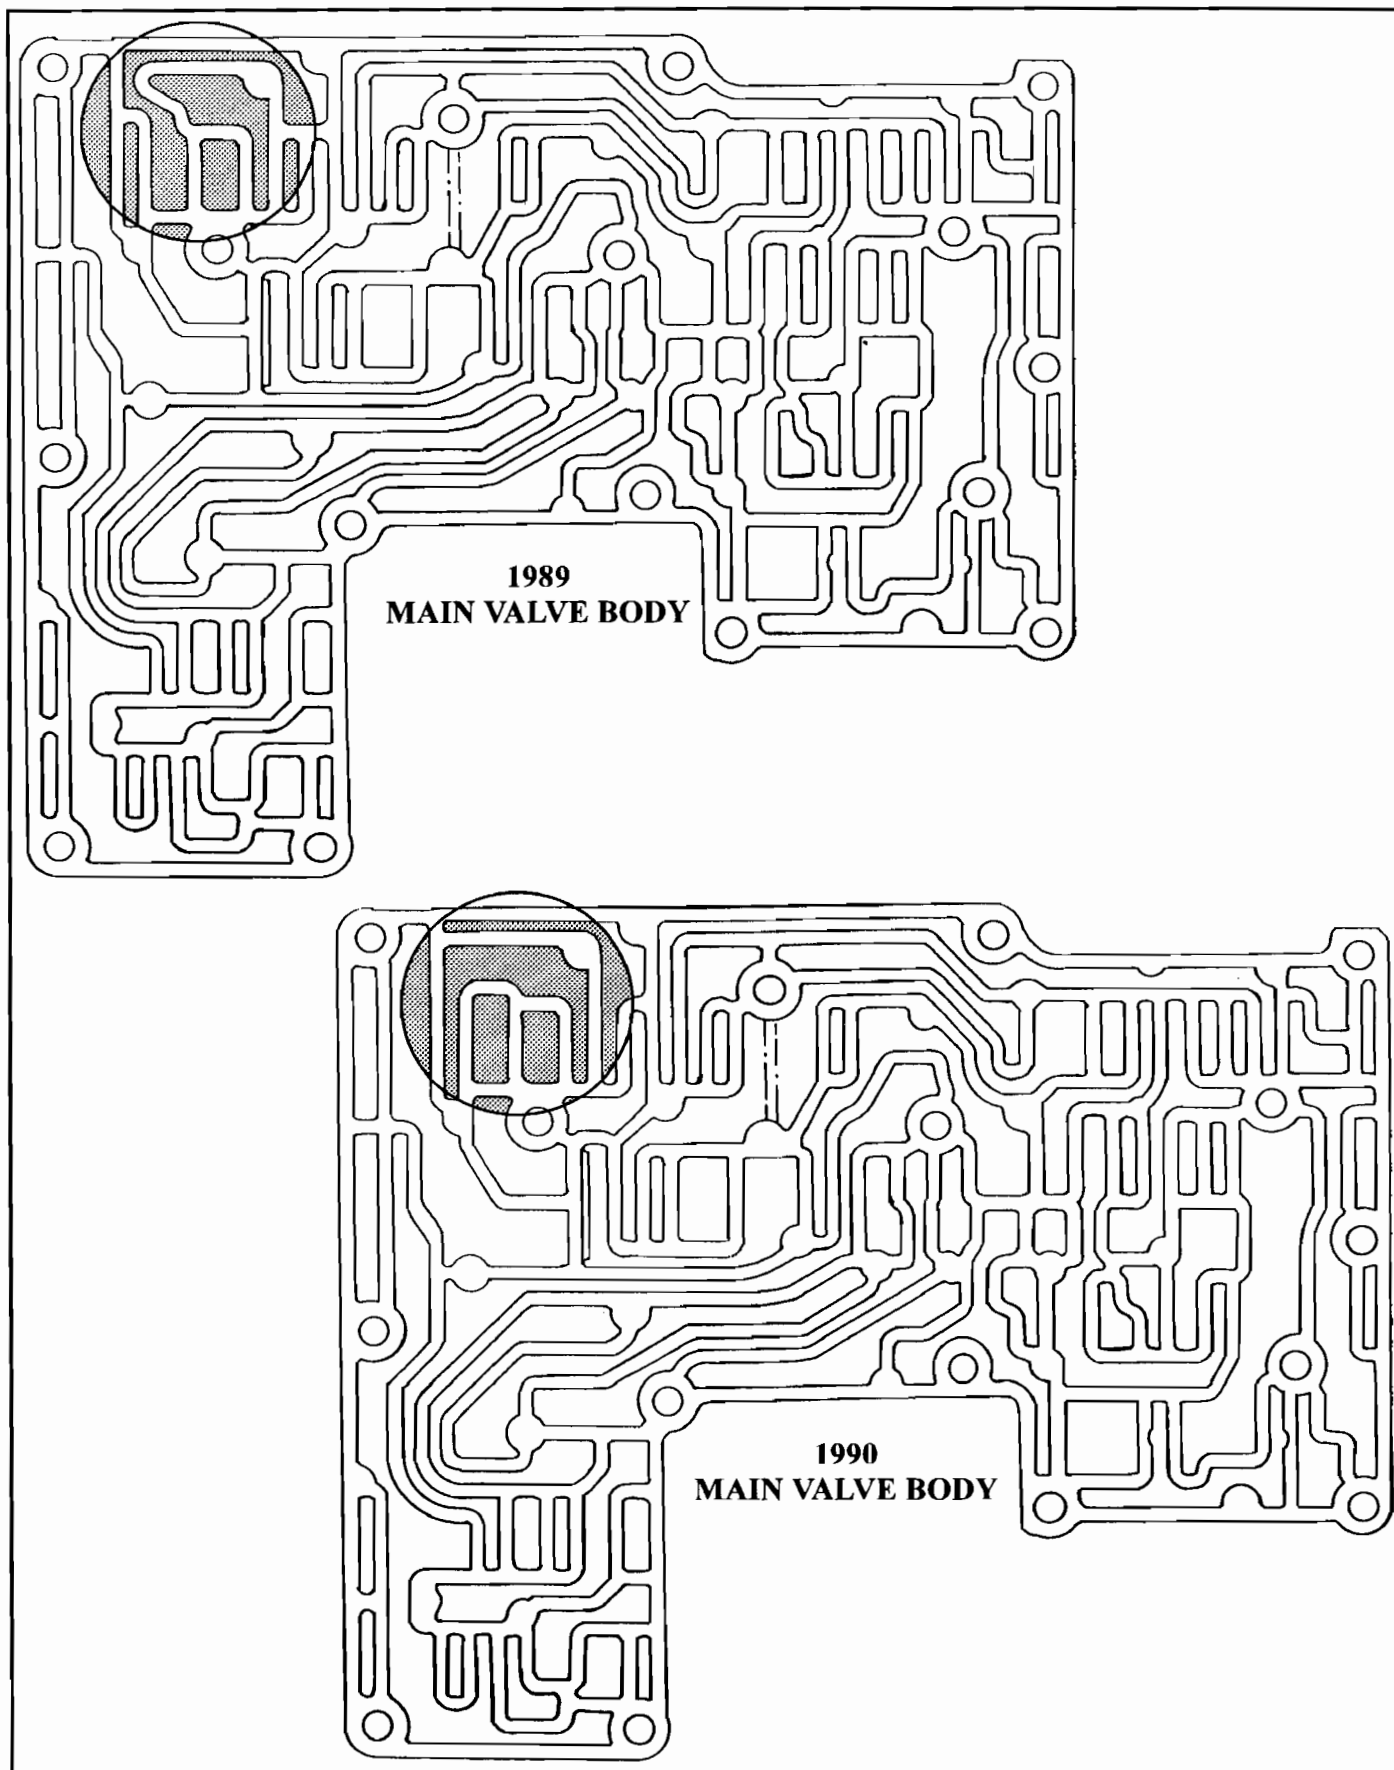
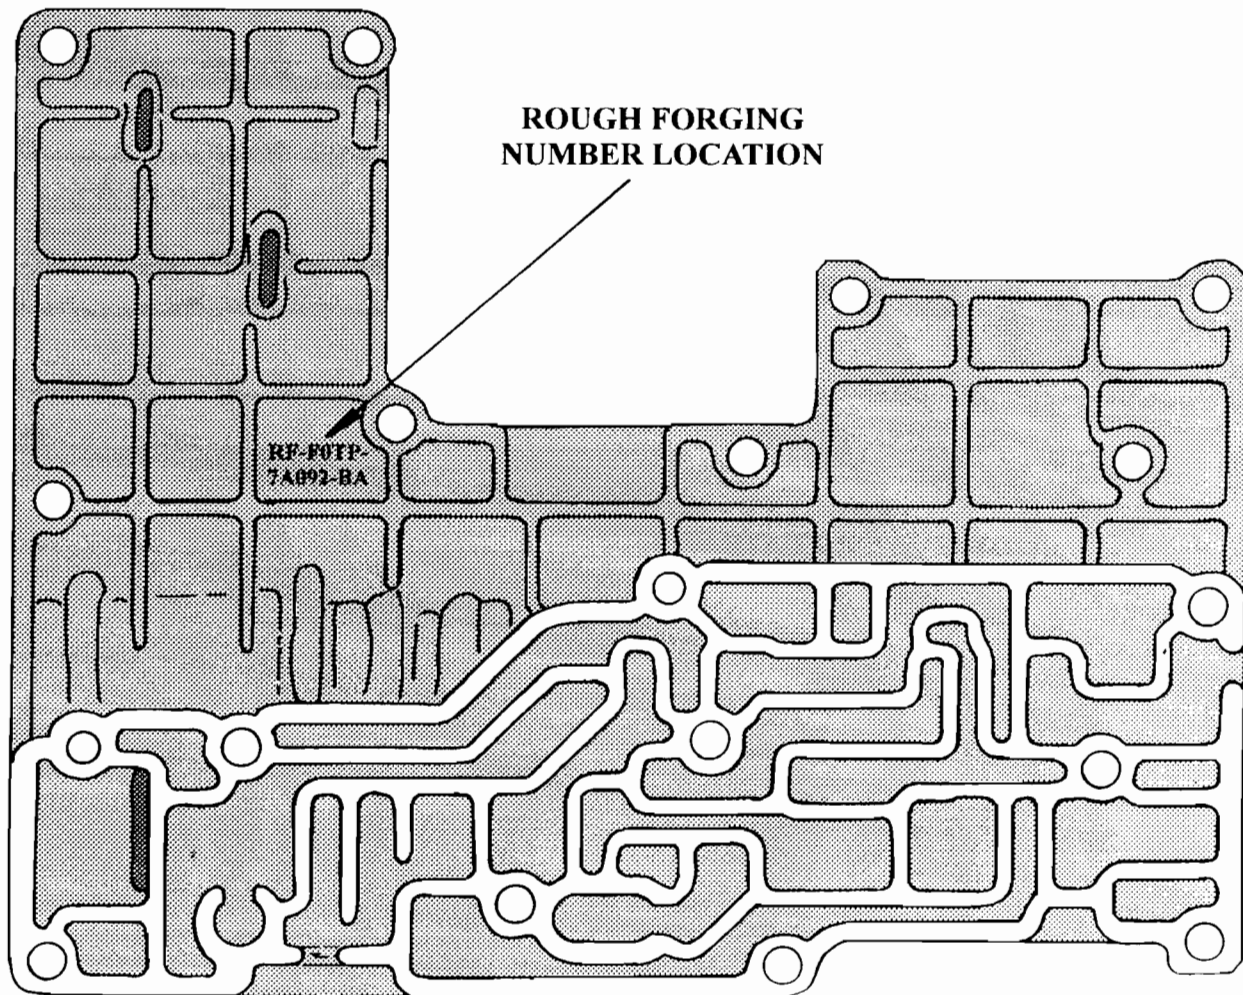

Figure 12
Figure 13
- (3) MAIN VALVE BODY - Can be identified by the differences in the worm track area at the 1-2 shift valve, as shown inside the circles in Figure 12. Can also be identified by the rough forging number cast into the valve body in the location shown in Figure 13.